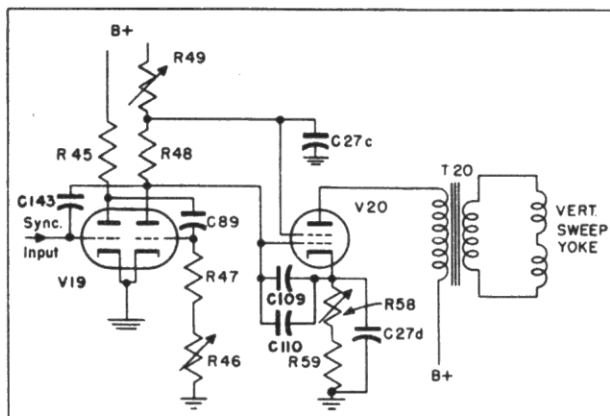

Fig. 8. Vertical M.V. and Sweep Output
**7. VERTICAL MULTIVIBRATOR AND SWEEP OUTPUT (SEE FIGURE 8)**—The vertical sawtooth voltage is generated by a Type 6SN7GT tube, V19, connected as a multivibrator. This voltage is coupled directly to a Type 6V6G vertical sweep output tube, V20, and then to the vertical sweep coils through the impedance-matching transformer, T20. Vertical speed is controlled by changing the time constant of the multivibrator grid circuit by the potentiometer, R46. Sweep size is changed by the potentiometer, R49, which changes B+ voltage applied to the charging network of tube V19 simultaneously with the screen voltage on tube, V20. Vertical linearity is controlled by a correction voltage developed in the cathode of V20 being fed back through C92 to